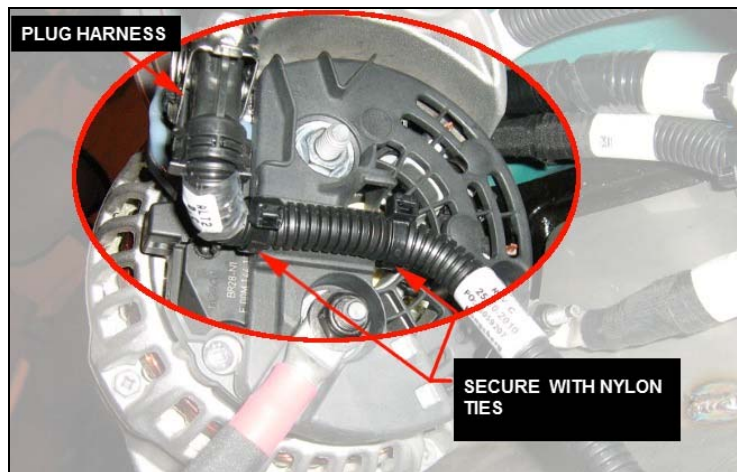

FIGURE 11
17. Plug alternator harness onto lower alternator connector and secure using two nylon cable ties #504637 (figure 11).